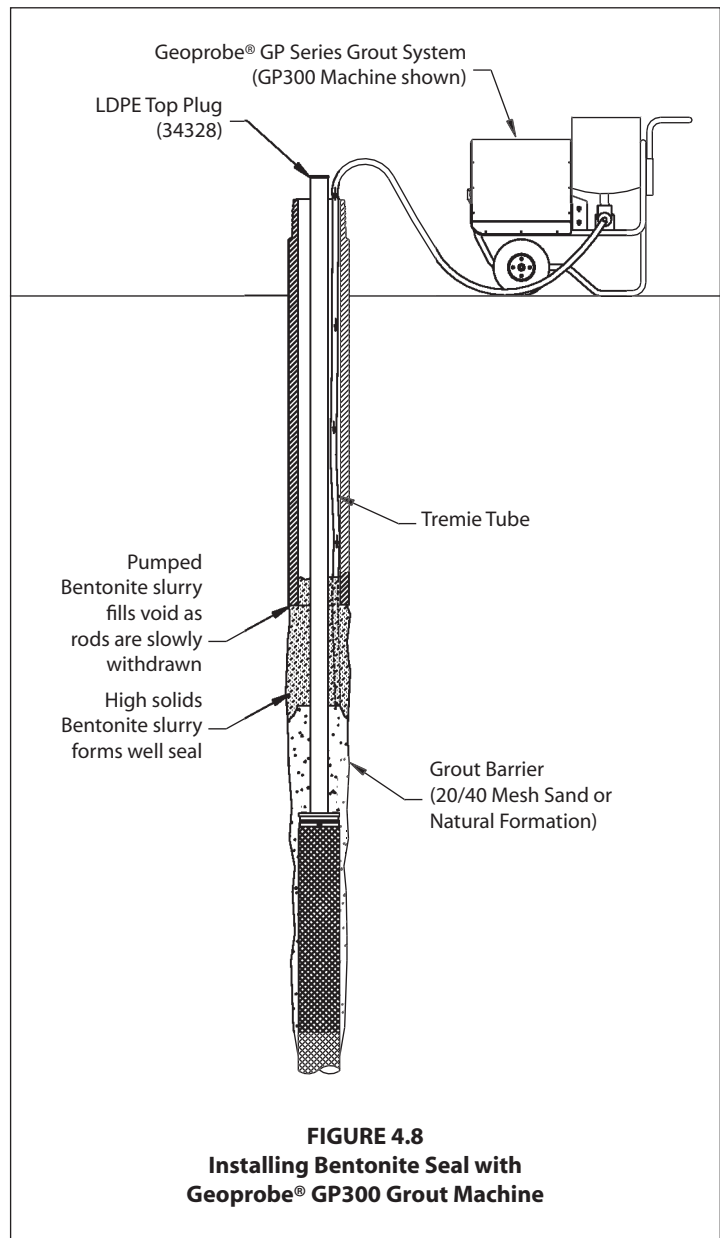

FIGURE 4.8
d) Activate the grout pump and fill the tremie tube with bentonite. Begin slowly pulling the rod string approximately 3 feet (1.0 m) while operating the pump (Fig.4.8). This will place bentonite in the void left by the retracted rods before it is filled by the collapsing formation. Continue to watch that the PVC riser does not come up with the rod string.